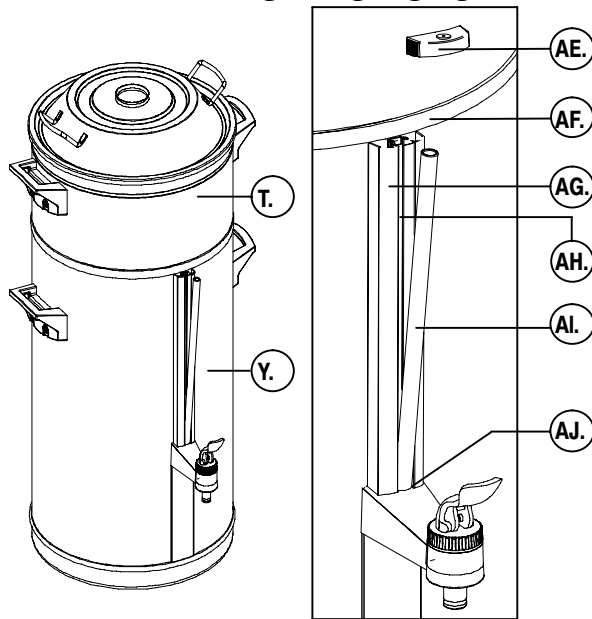

Fig. 10 Placing the sight glass cover
- Clean the gauge glass (fig.10 ):